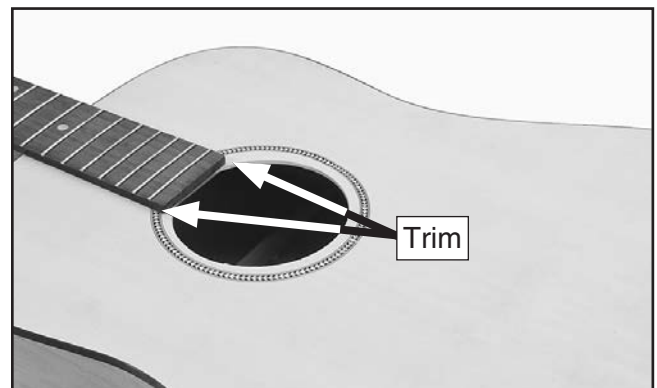

Figure 11. Applying decal.
6. Trim the decal with a razor knife or marking knife where it overlaps the fingerboard, as shown in **Figure 11**.